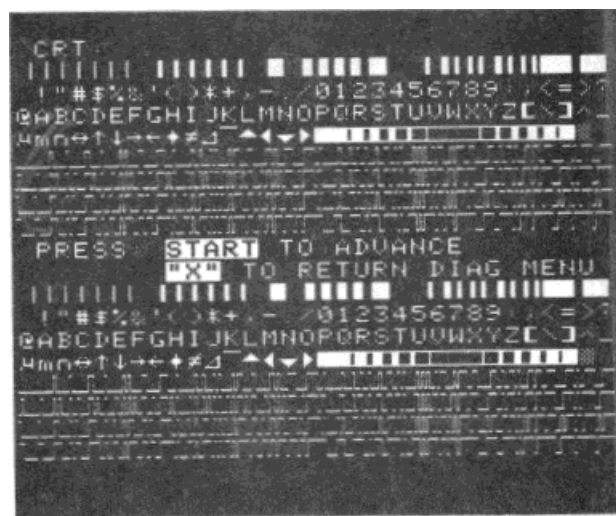

Figure 5-7. 318 CRT test parallel acquisition character fonts.
- All character fonts for Parallel Analyzer mode (Figure 5-7). Used to check the CRT circuit and the CROM (character ROM) for parallel analyzer operations.